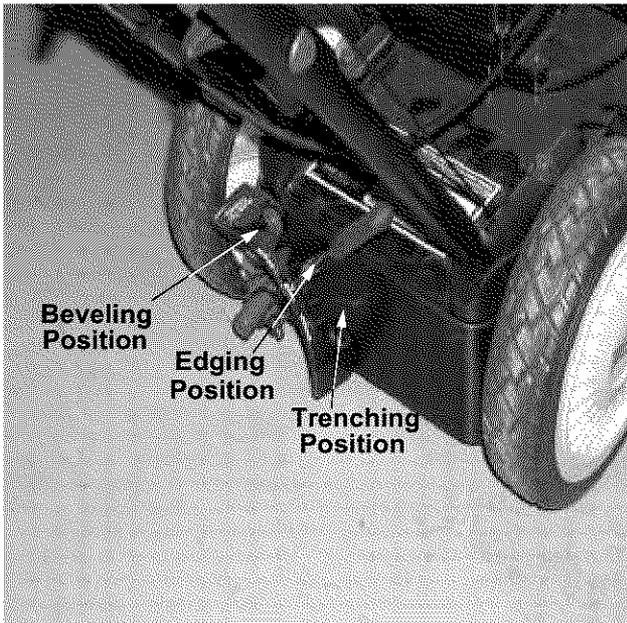
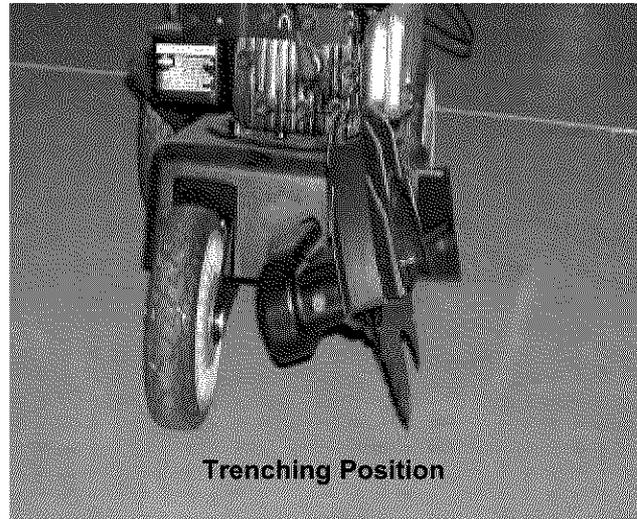

Figure 9
Figure 13
The cutting blade can be adjusted to five positions; from beveling to edging to trenching. To adjust, make sure the engine is not running. Release the adjustment lever on the pivot bracket and pivot the lever to the desired cutting position. Place the adjustment lever in the notch desired. See Figure 9.
1. Set the adjustment lever (refer to Figure 9) in the middle notch of the blade tilt control to edge vertically. See Figure 11.
- Set the adjustment lever (refer to Figure 9) in the first or second notch at the top for beveling. See Figure 12.
- Set the adjustment lever (refer to Figure 9) in the fourth or fifth notch at the bottom for trenching. See Figure 13.